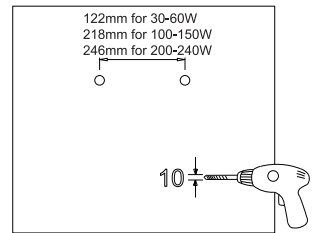

Figure 33
- Step 1: Drill holes on the wall as shown Figure 33 .